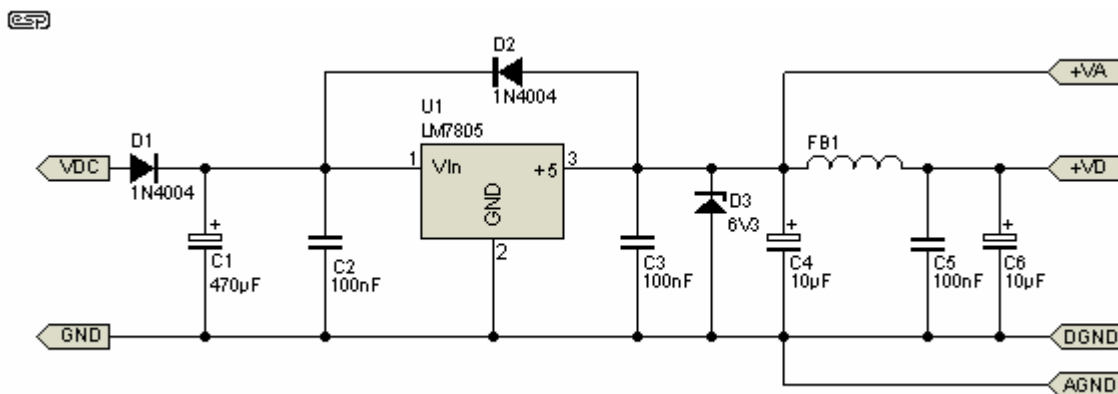

Figure 1 - Power Supply
- If the DAC is to be coupled with a DIY pre-amp or EQ, especially ones utilising high speed op-amps (such as Project 28, etc.), great care must be taken to bypass the feedback loop with a proper value capacitor. Without it, frequency response is so great that artefacts of digital switching may become audible when the shelving treble control is increased. For Project 28, a 1nF capacitor across the 2k7 feedback resistor (Figure 1) will limit the high end to about 60 kHz and rids the extra noise completely. This may also be a problem with some commercial preamplifiers with tone controls, as the the treble control is almost always shelving. Commercial parametric EQ does not normally use a shelving high frequency control.